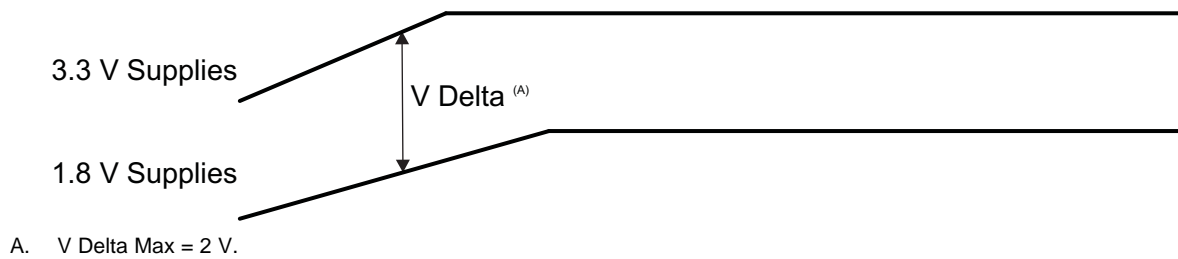

Figure 7-2. 3.3 V Supplies Rising Before 1.8 V Supplies Delta
(1) The 3.3 V supplies **must** never be more than 2 V above the 1.8 V supplies (see Figure 7-2).
(2) The 1.8 V supplies **must** be  $\geq 1.5$  V (DVDD\_DDR[x]) and CVDD, CVDD\_x supplies.
(1) The 1.8 V supplies **must** be  $\geq 1.5$  V (DVDD\_DDR[x]) and CVDD, CVDD\_x supplies.
(2) The 3.3 V supplies **must** never be more than 2 V above the 1.8 V supplies (see Figure 7-2).